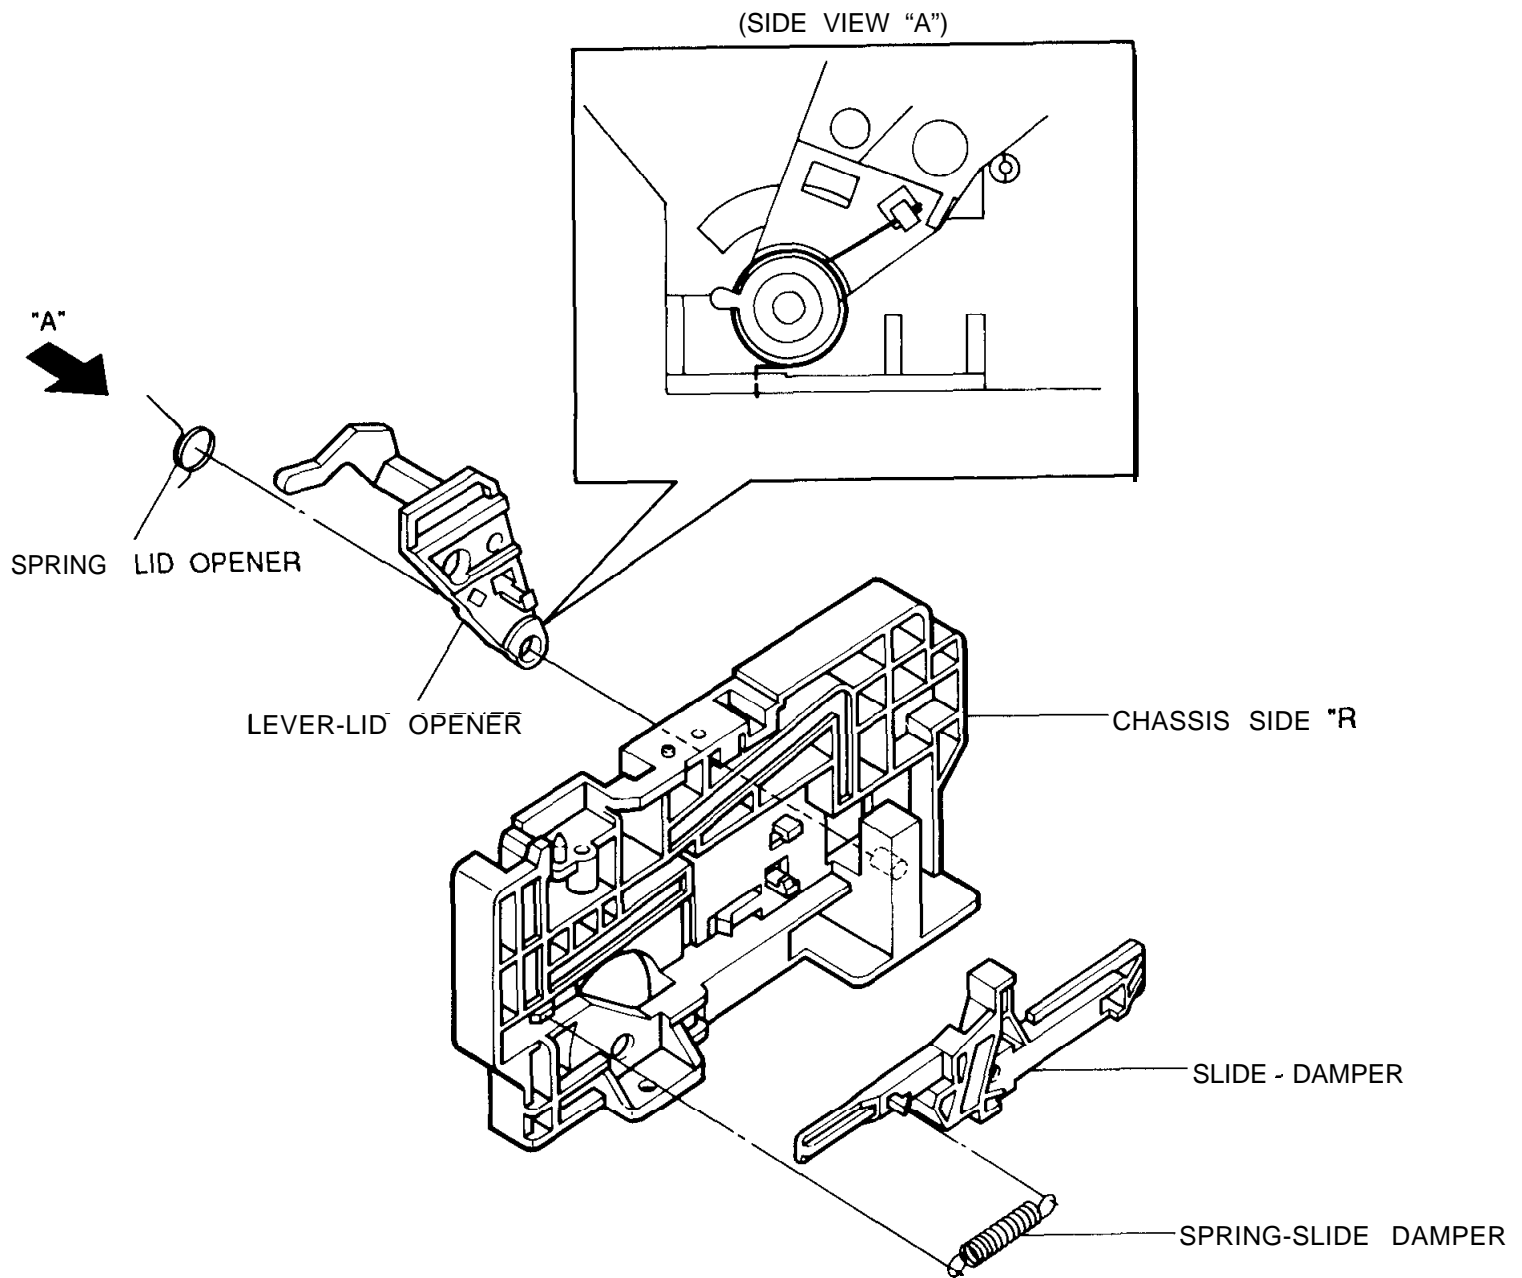

Fig. 16 Chassis Side "R" Parts Locations
- 1) Make sure that phase matching holes of the motor rotor & the cylinder sub ass'y are aligned correctly as shown in Fig. 16 (Refer to phase matching hole)
- 2) Reinstall the retainer lever ass'y @ and secure with two(2) screws.